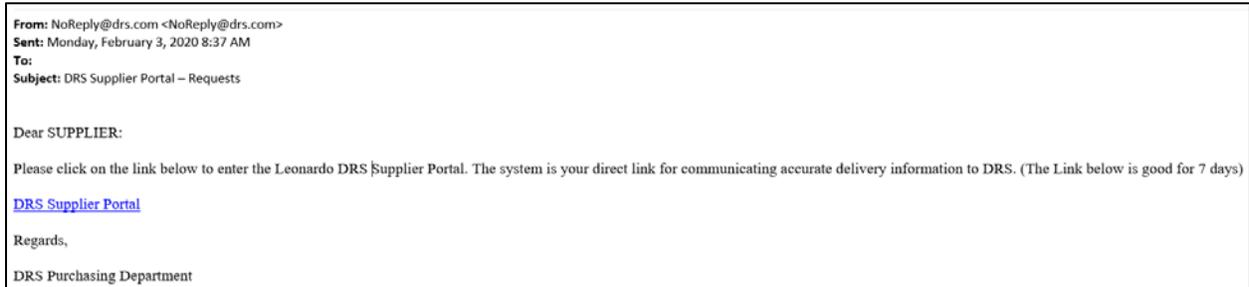

FIGURE 1: Portal Email
- Send an email to SupplierRequest@drs.com . You will receive an email back with a 'DRS Supplier Portal' link similar to the one below (See FIGURE 1) including the subject line of 'DRS Supplier Request System'. Please click the 'DRS Supplier Portal' link.